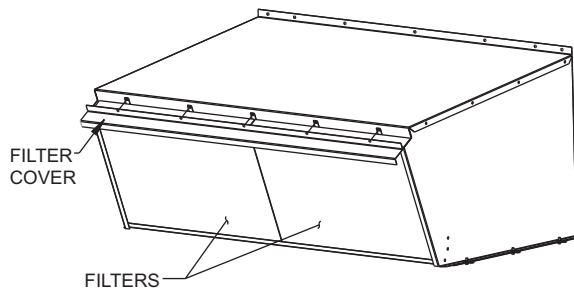

Fig. 34 — Filters and Filter Cover
15. Slide two 20 x 25 in. filters into cross members of hood assembly. Attach filter cover over filters with screws and speed clips provided. See Fig. 34 for filter and filter cover location.